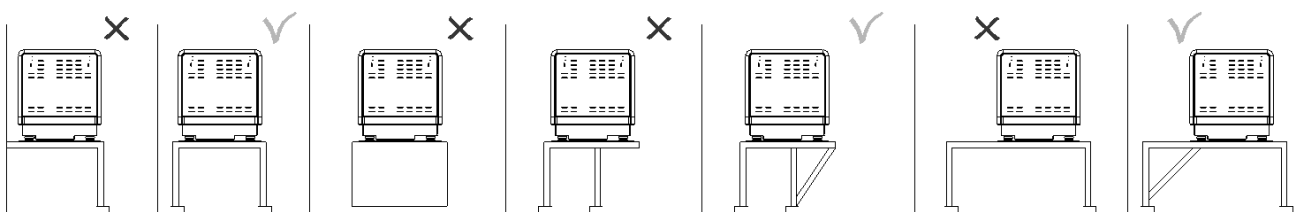

Figure 1: Mounting of the Whisper generating set. X = wrong, V = OK
- 1 Most important is the structure on which the generator is placed to be stiff. See figure 1. Directly below the rubber mountings the structure should be supported vertically to the superstructure of the ship.